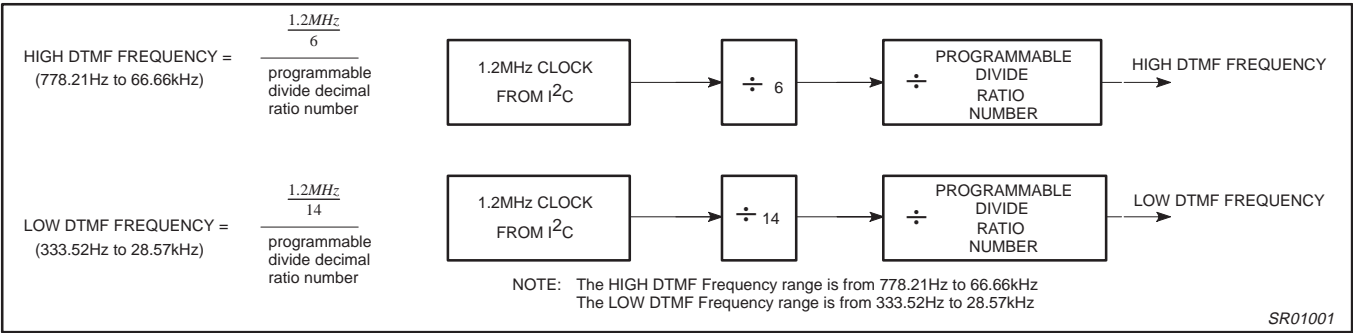

Figure 9. DTMF Formula
The DTMF generator generates its tones by using the 1.2MHz I²C clock and dividing it down to the desired frequency. There are high and low DTMF tones, so different divide ratios are used. To tailor the exact frequency, a programmable divide ratio number is provided to the designer. Figure 9 shows the basic scheme and the formulas to calculate the desired DTMF frequency.
Step 2: Use formulas in Figure 9 to calculate the programmable 'divide ratio number' for both High and Low tones.
- Using the formula in Figure 9,
- Calculate 'divide ratio number' using the formula in Figure 9,